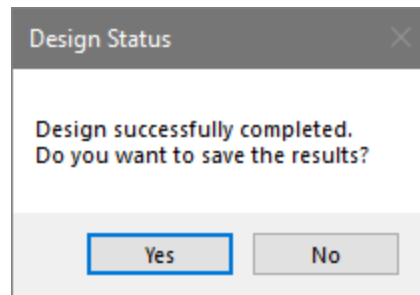

Figure 9-75
- Click on *Floor Design* → *Section Design* and click on the *Design the Sections*  icon. The program will start to perform the design of the sections. When completed you should see a window as shown in **FIGURE 9-75**.